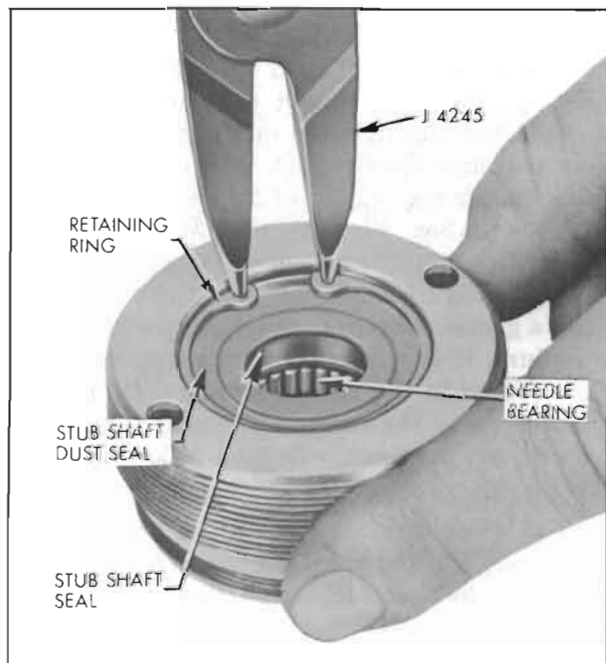

Figure 8-31—Removing Stub Shaft Seal Retaining Ring
3. Remove stub shaft seal retaining ring using No. 3 Truarc Pliers J-4245 and remove and discard dust seal. See Figure 8-31.